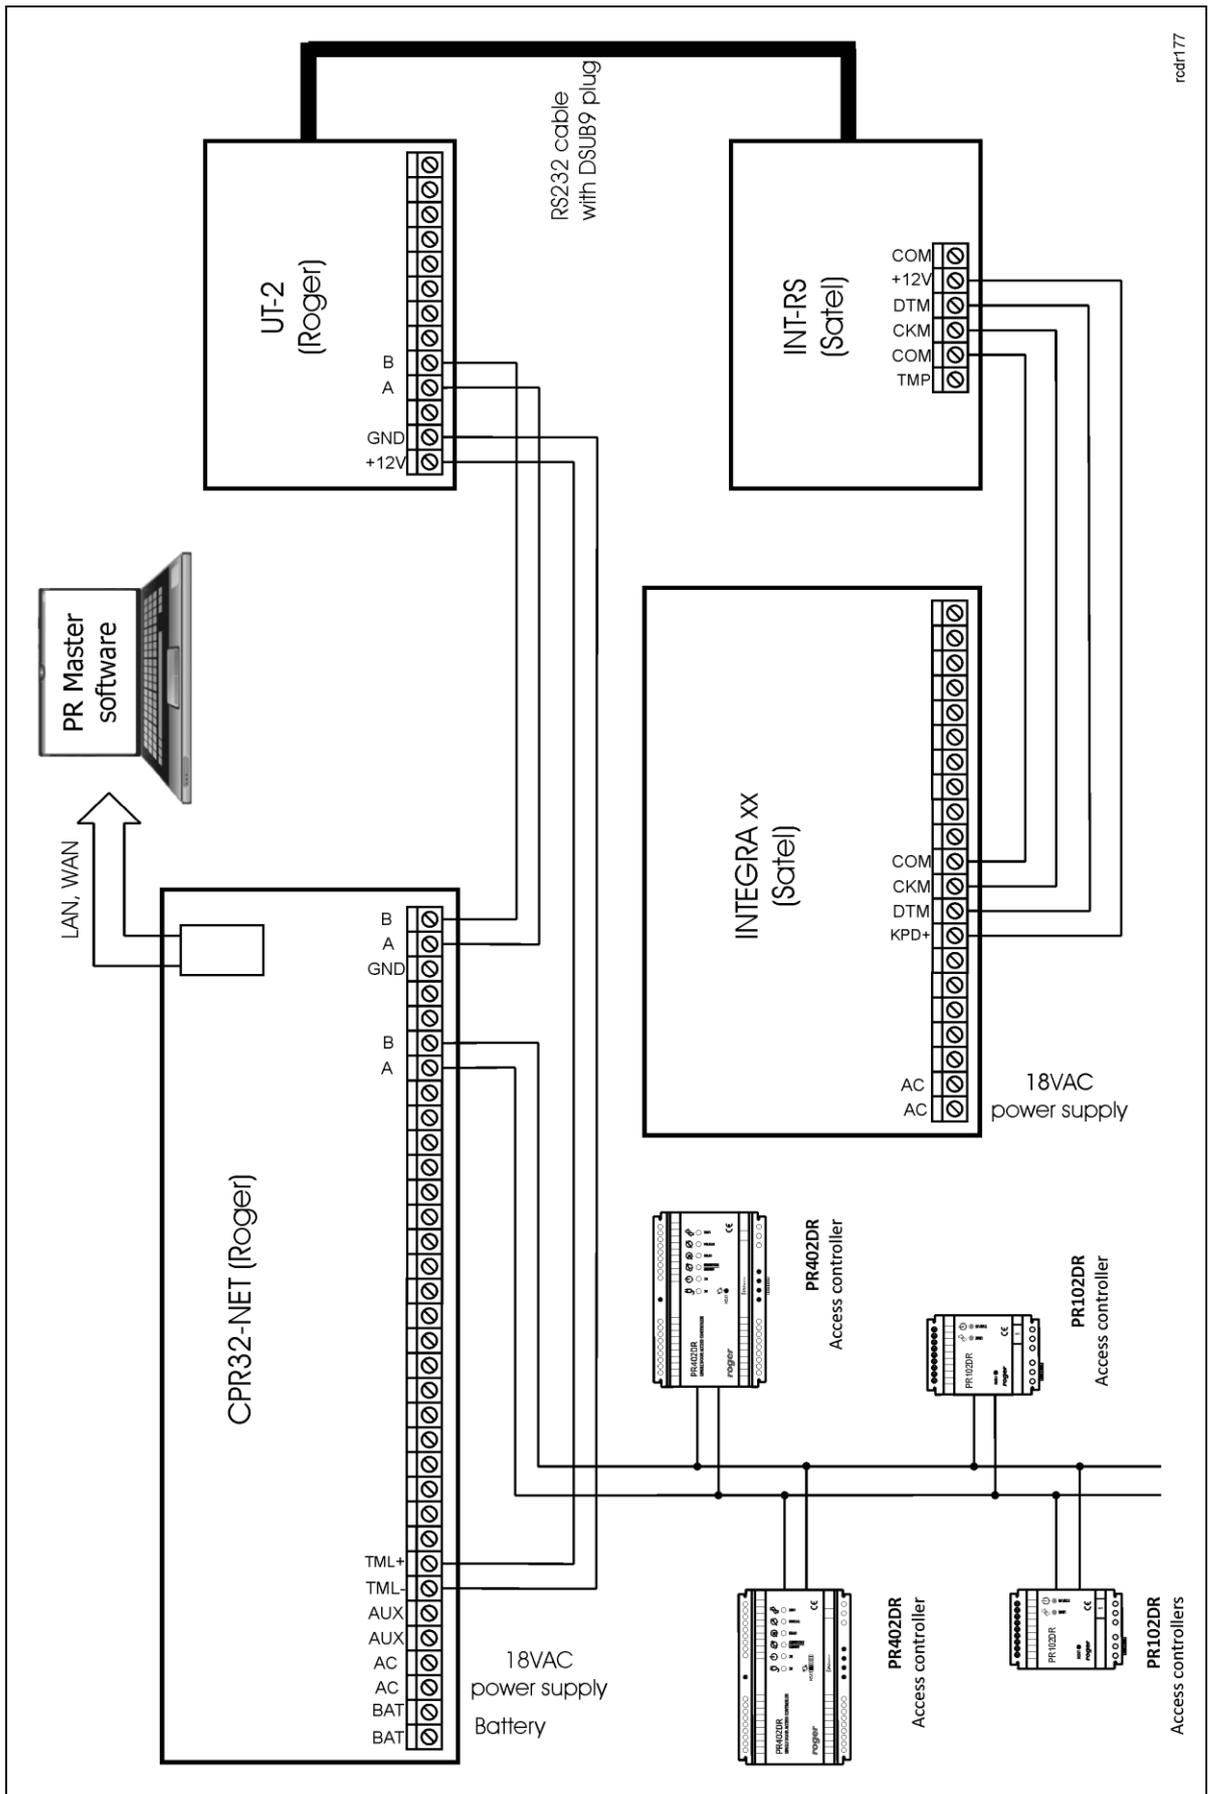

Fig. 2 Typical connection diagram for the integration
- Connect CPR32-NET network controller, UT-2 communication interface, INT-RS converter and INTEGRA series alarm control panel according to fig. 2.
The installation consists in connection of CPR32-NET network controller, UT-2 communication interface, INT-RS converter and INTEGRA series alarm control panel in accordance with fig. 2. CPR32-NET network controller is equipped with two separate RS-485 buses. The first one is used for communication with access controllers within RACS 4 system, while the second one can be used for communication with INTEGRA series alarm control panel.
The integration with INTEGRA system requires the installation of CPR32-NET unit. After the connection in accordance with diagram shown in fig. 2 it is necessary to download and install PR Master software, which is available at www.roger.pl. System setup requires following steps: